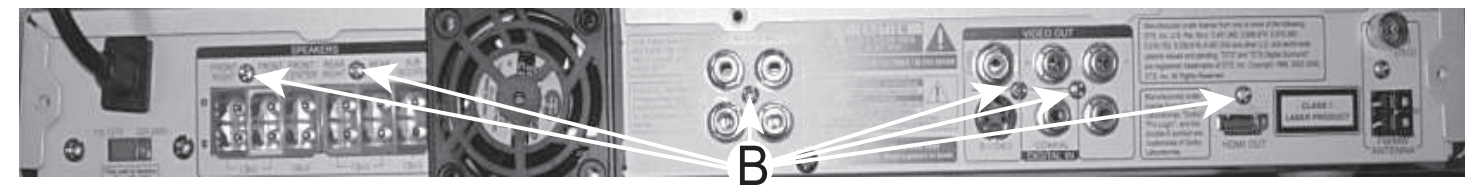

Figure 5
- 1) Loosen 6 screws "B" at the back panel as shown in figure 5.